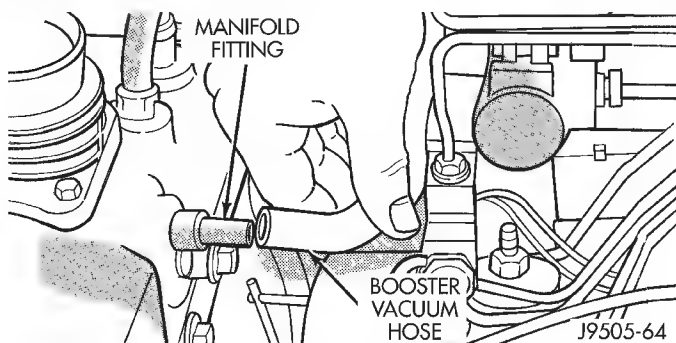

Fig. 11 Booster Vacuum Hose Removal/Installation (From Manifold Fitting)
(8) Disconnect brake booster vacuum hose at intake manifold fitting (Fig. 11). Move hose aside for working clearance.